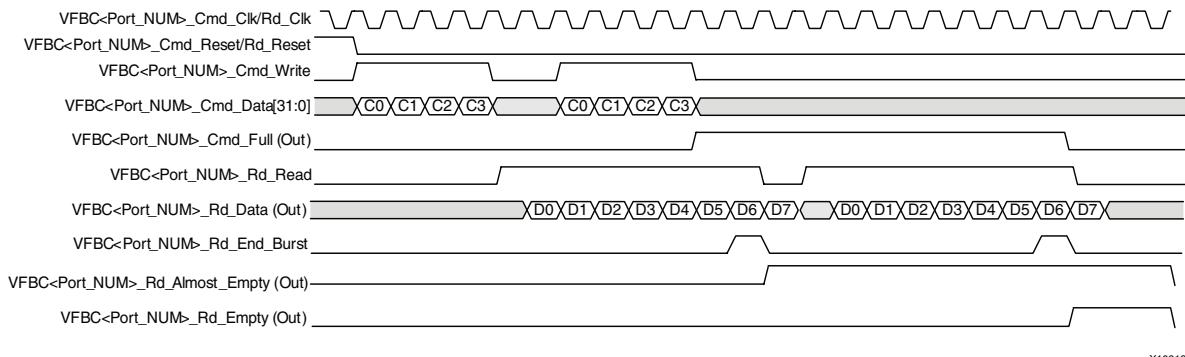

Figure 41: VFBC Read Timing
4. Figure 41 shows one cycle between VFBC<Port\_Num>\_Rd\_End\_Burst and the next burst; although, zero to any number of cycles can exist between read transactions.